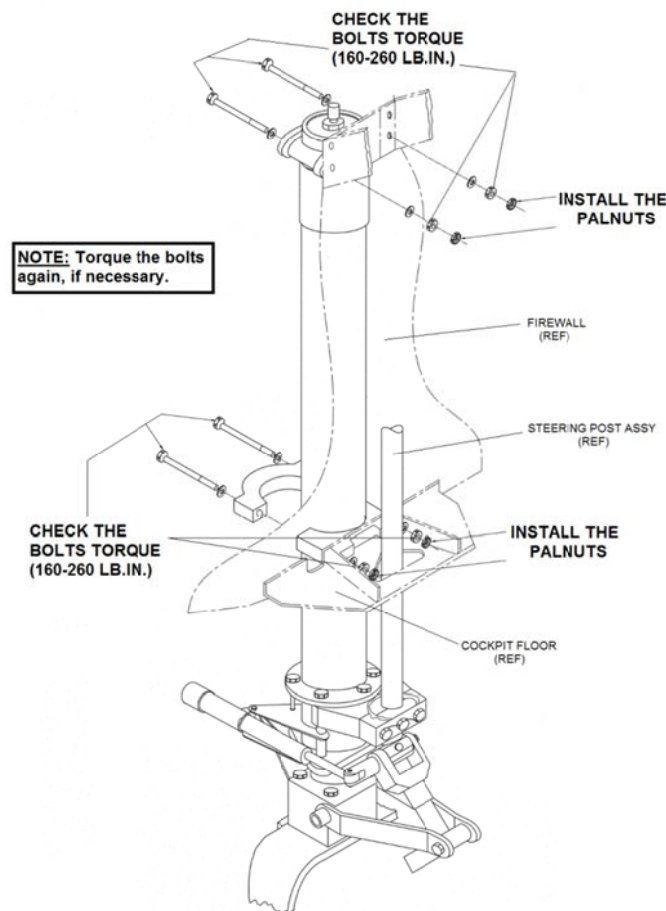

FIGURE 4 NOSE LANDING GEAR – TORQUE CHECK AND PALNUTS INSTALLATION
- 7) Hold the upper attachment bolts of the Nose Landing Gear and check the torque (from inside cockpit through the nuts) (See Figure 4).
- 9) In the Lower Engine Cowl area, access the lower attachment bolts of the Nose landing gear and check the torque (from inside cockpit through the nuts) (See Figure 4).